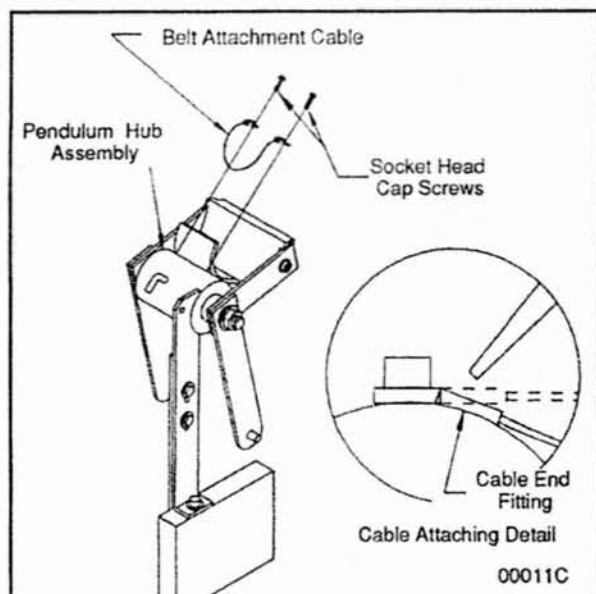

Figure 5.9 Belt Attachment Cable.
2. Locate the Belt Attachment Cable screws located at the top rear of the pendulum hub. See Figure 5.9.
4. Using the broad side of the flat blade screwdriver, gently bend cable end fittings approximately tangent to surface of hub. See Figure 5.9.